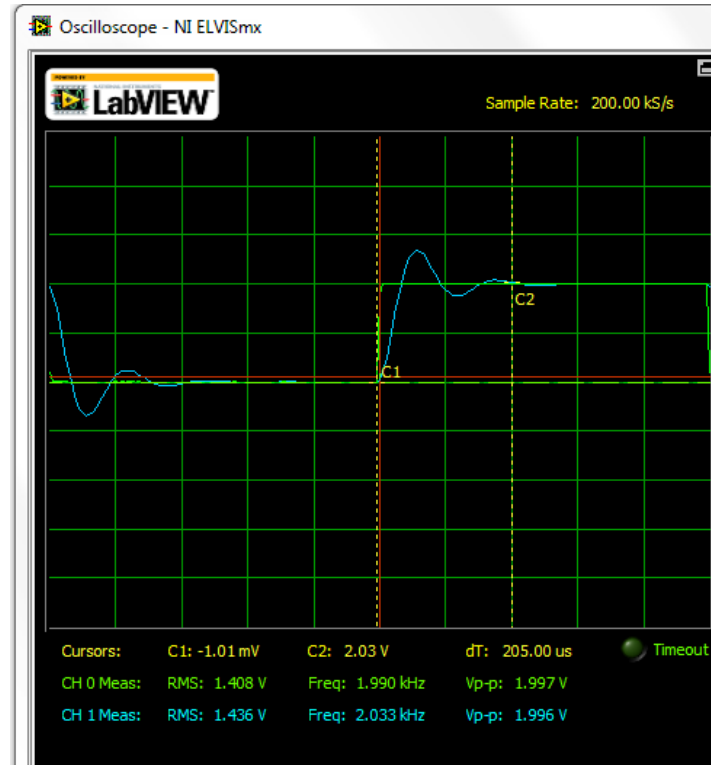

Figure 19: Open loop step response of a second order plant
7. The output is the voltage across the capacitor and the graph should look similar to Figure 19. Note that this system has a settling time of approximately **200  $\mu\text{s}$**  and about a **30% overshoot**. You should include a screen shot of this oscilloscope screen in your memo.